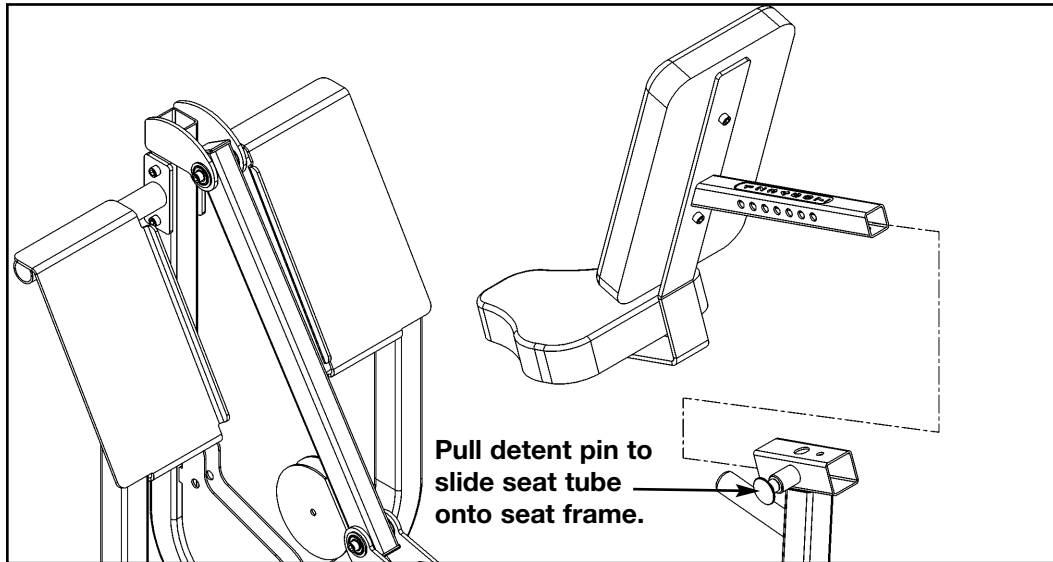

Figure 14
- D. Slide seat tube through seat frame as shown in Figure 14.